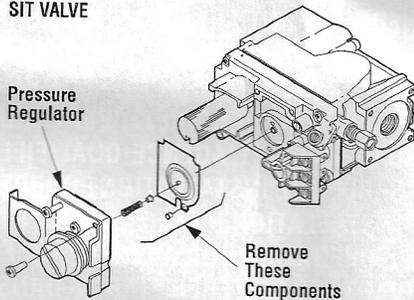

Figure 1
Step 4. SIT Systems - Refer to **Figure 1**. Using a Torx T20, or a flat screwdriver, remove and discard the three pressure regulator mounting screws. Remove the pressure regulator, spring, poppet, diaphragm and bushing.
Step 9. SIT Systems - Refer to *Figure 1*. Using a Torx T20, or a flat screwdriver, remove and discard the three pressure regulator mounting screws. Remove the pressure regulator, spring, poppet, diaphragm and bushing.